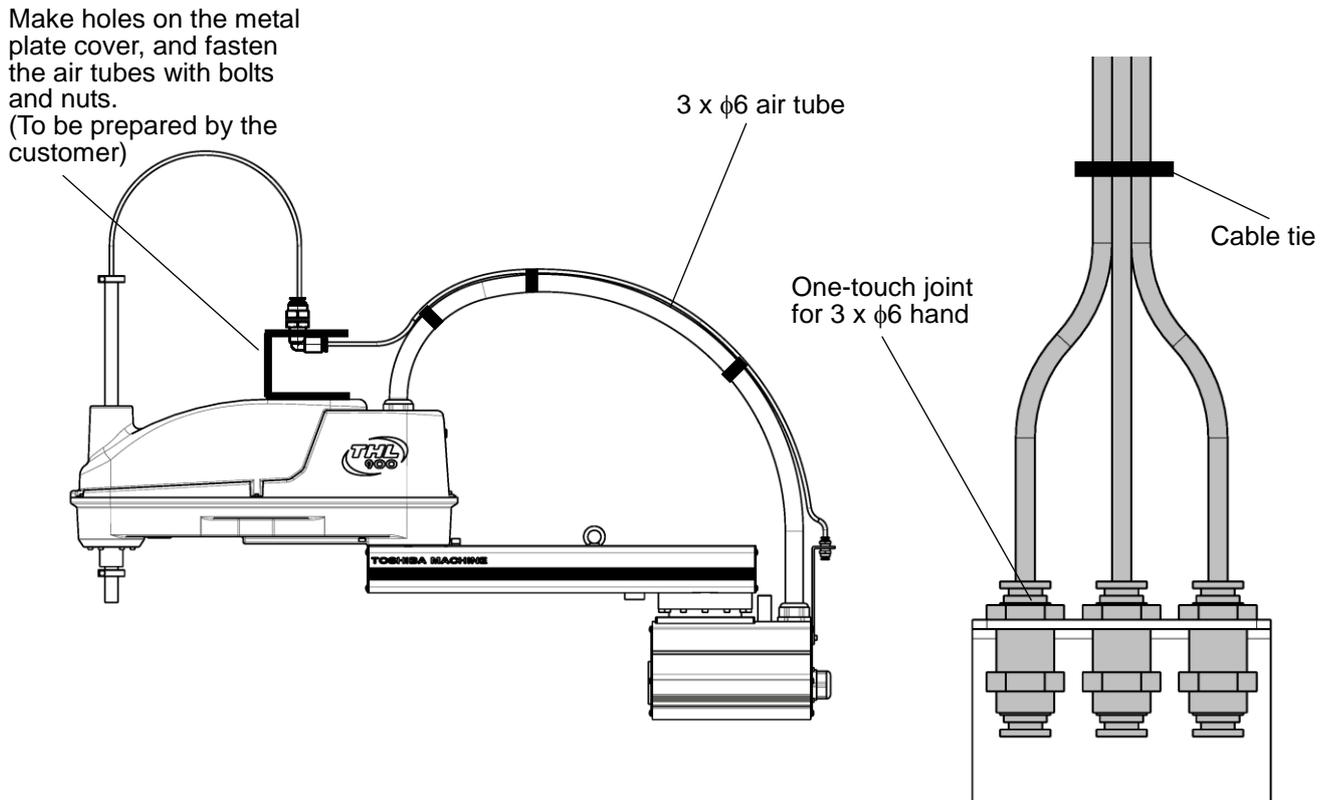

Fig. 18.2 Tool air piping wiring example (THL800, THL900 and THL1000)
Fig. 18.2 shows an installation example of tool air piping for your reference.
- Please be aware that Fig. 18.2 shows a piping example, and it does not guarantee the air tubes and their accessories to be free from damage.